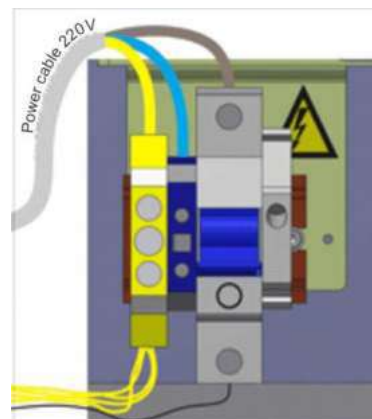

Fig.18– Connection of power supply cable
a) Power supply cable ~220 V to be connected (Fig. 18):
- **Neutral (N)** to be connected to terminal ~220V (N);
- **Earth (PE)** to be connected to earthing terminal (PE).